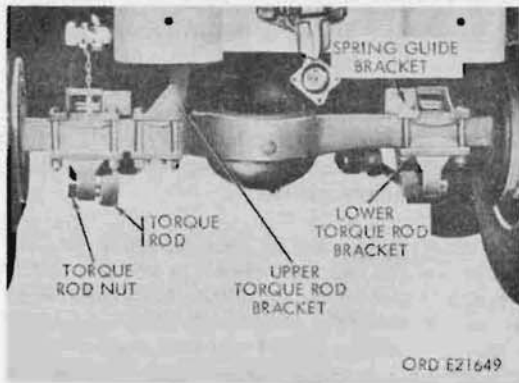

Figure 201. Rear axle installed
Both rear axles are bevel-drive, top-mounted, double-reduction, single-speed type. The differential and carrier are mounted as an assembly in the housing. Forward-rear and rear-rear axles are mounted in tandem with torque rods on each side of the interconnecting axles. Power is transmitted from the transfer by the propeller shaft to forward-rear-axle differential and from forward-rear axle to rear-rear axle differential by another propeller shaft. Driving force is transmitted from the axles to the chassis frame by six torque rods, four attached to lower brackets and two attached to upper brackets. Three torque rods (fig. 201) are attached to each axle and take all driving and braking load. Trucks M60 and M108 have larger spring guide brackets to accommodate heavier rear springs. Axle shafts are full floating type with flanges forged at outer ends. Axle shafts transmit driving power from differential to
174. Rear Axle (Fig. 201)
- (4) Disconnect brake lines. Remove the brake line brackets from axle housing and disconnect brake lines from the wheel cylinders at the brake flange plates.
- (5) Disconnect propeller shaft. Disconnect propeller shaft or shafts, as necessary, to free axle (par. 165).
- (6) Disconnect torque rods. Remove torque rods (fig. 201) from upper and lower brackets on axle.
- (7) Remove axle. With axle resting on the dolly, move it to the front or rear as
(2) *Connect torque rods.* Aline torque rod ends with holes in brackets. Install the torque rods (fig. 201) on the brackets on the axle.